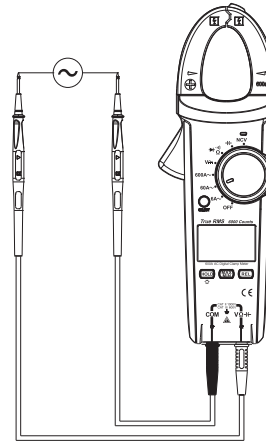

Figure 4
2. AC voltage measurement (see Figure 4)